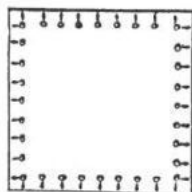

Fig. 1.
*Tente d'abri.*—The French "*tente d'abri*" has not, so far as I know, been adopted by travellers: it seems hardly suitable, except for soldiers. Each man carries a square of canvas (fig. 1), with buttons and button-holes all round it, by which it can be doubly attached to other similar squares of canvas, and thus, from several separate pieces, one large cloth can be made. The square carried by the French soldier measures